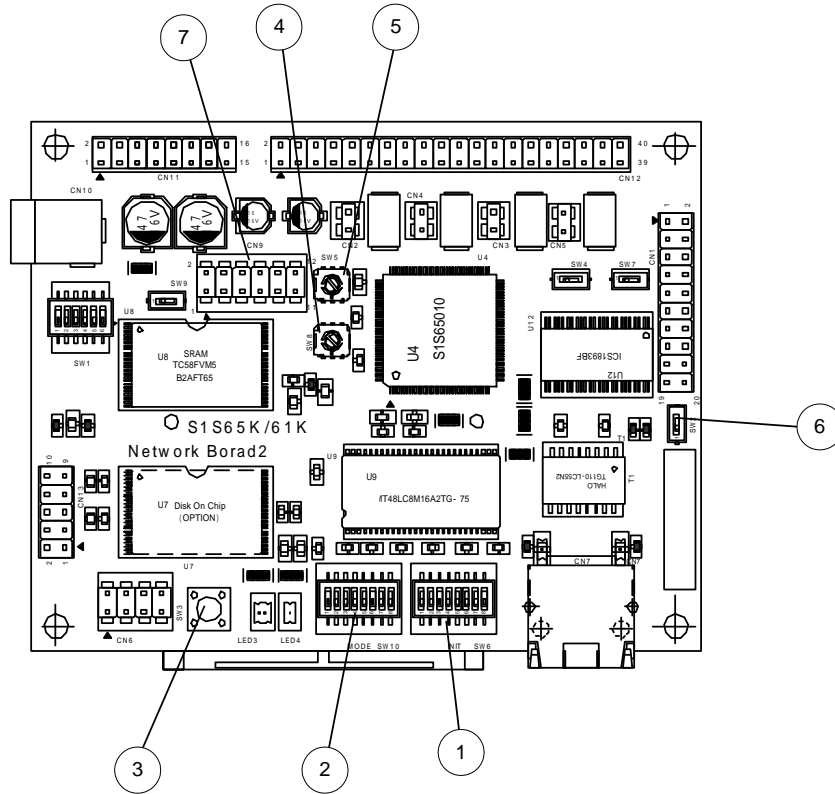

Fig.5.1 Main Board (Top View)
Fig.5.1 and 5.2 show component locations on both sides of the main board. The following nine subsections describe their functions.
(1) in Fig. 5.1
(2) in Fig. 5.1
(3) in Fig. 5.1
(4) in Fig. 5.1
(5) in Fig. 5.1
(6) in Fig. 5.1
(7) in Fig. 5.1